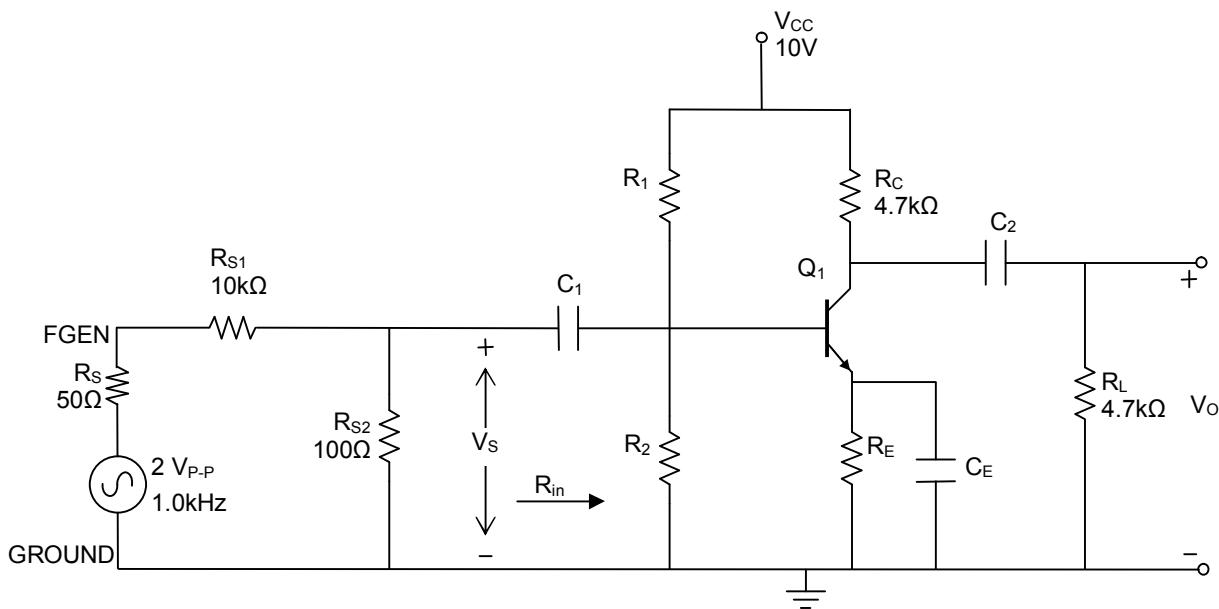

Figure 9.1: Common-emitter Amplifier
2. Design a single stage, BJT CE amplifier with the specifications given below. Note that the signal source comprises the function generator and the voltage attenuator (see Figure 9.1). The output impedance (R_s) of the function generator is 50Ω . Your amplifier should also meet the following design specifications:
1. In Figure 9.1, the resistor R_S , represents the 50Ω internal impedance of the signal generator. The two resistors, R_{S1} and R_{S2} , are a voltage divider, external to the signal generator. These two resistors are chosen to keep the input signal to the amplifier low enough to insure that the output wave shape is not distorted. Use an input signal of $0.02V_{p-p}$ at the base of the transistor. To get this signal, you must use a $2V_{p-p}$ output from FGEN.
2. Complete your circuit as shown in Figure 9.1, using R_{S1} , R_{S2} , R_L , and capacitors (use $22\mu F$ or $47\mu F$). R_S is an internal resistance already in the FGEN.